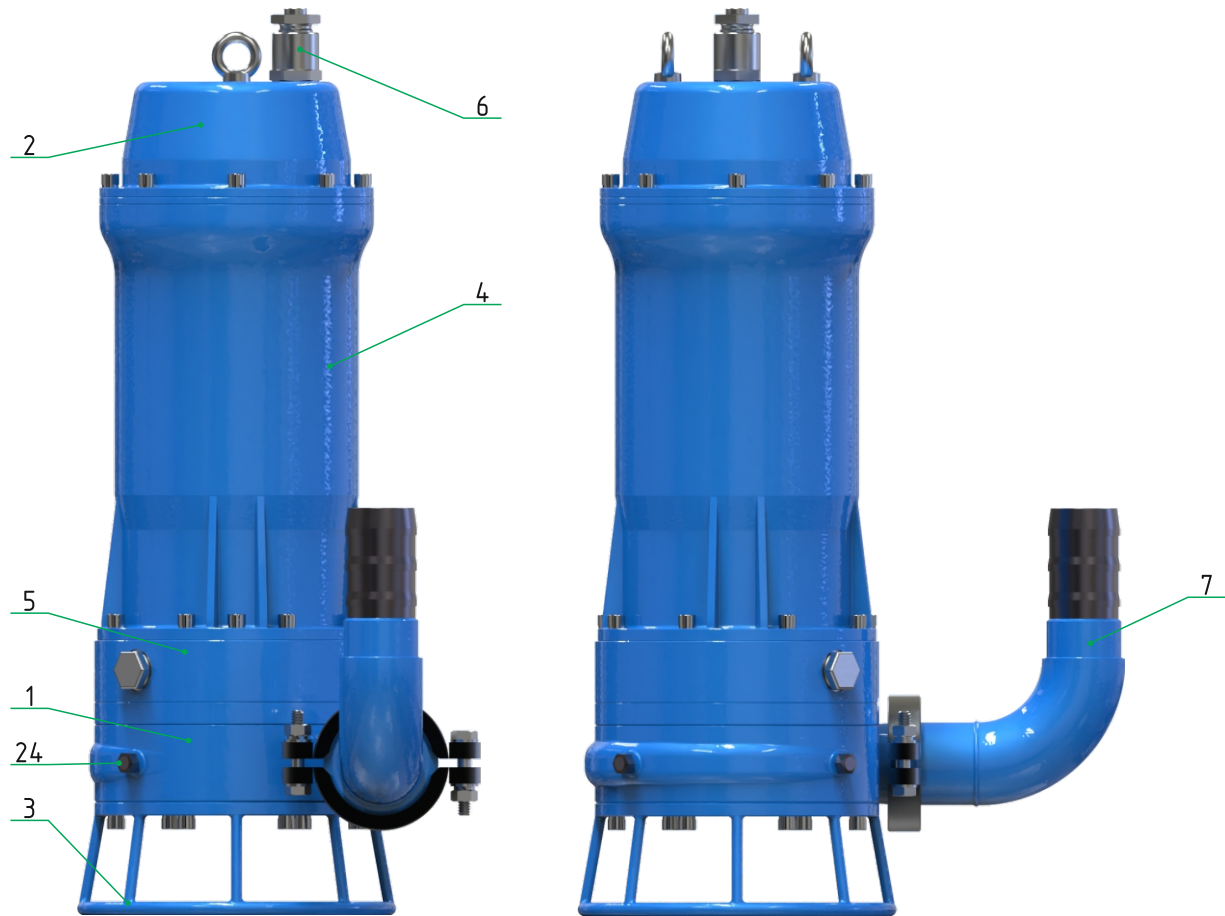

Figure 3 - Pumping station SN-R1-03. Structure.
Pumping station SN-84.69.1,15R1-03.76.15.55.V.2T (Fig. 3) is a device consisting of a centrifugal pump NC-76R1 (pos. 1) installed on an electric motor (pos. 2). A cover with a diffuser (pos. 3) is installed on the inlet pipe of the pump. A casing with a sling eyelet (pos. 4) is installed on top of the electric motor, which provides the degree of protection of the electric motor IP 68. The electric motor and the pump are interconnected by an adapter (pos. 5). The wire for powering the electric motor is led out through the sealer (pos. 6) installed on the casing (pos. 4). A branch is installed at the outlet of the pump (pos. 7).